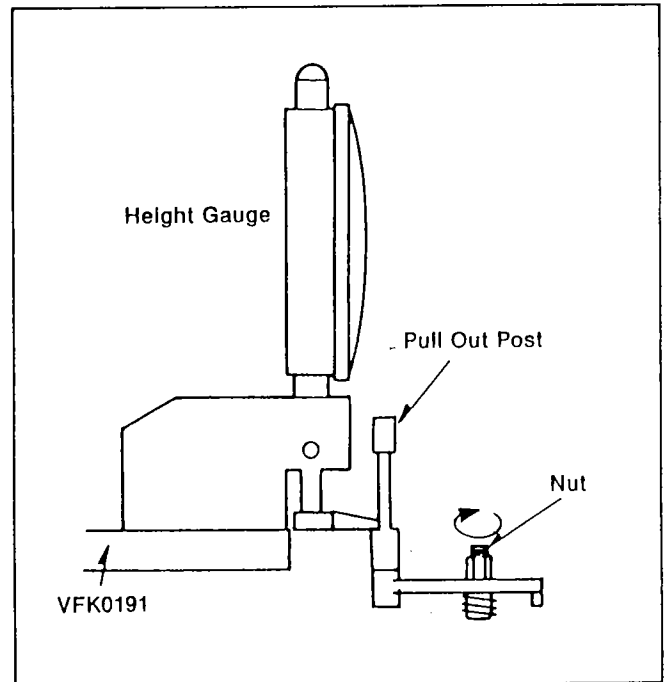

Figure M8
- Place the Reel Table Height Gauge as shown in Figure M8 and turn the nut slowly until the gauge reads -0.06mm +/- 0.01mm.